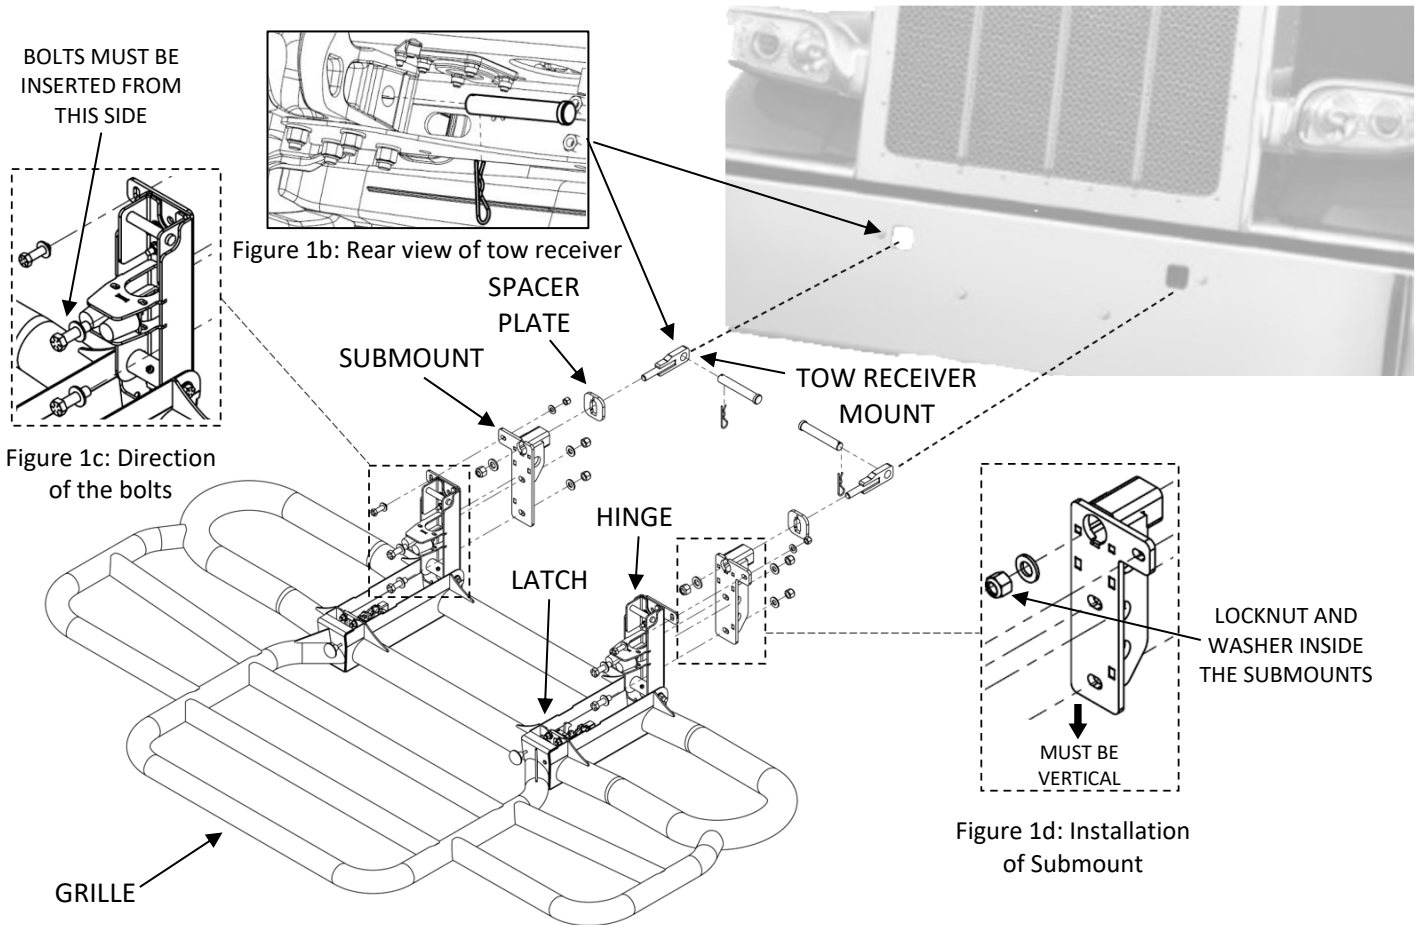

Figure 1a: Grille Guard installation (Your Grille Guard may not be exactly as shown)
4. Open driver side Hinge and lift to driver side Submount. Hand tighten middle hardware (5/8") shown in Figure 1a (**do not fully tighten**). Repeat for passenger side. **Ensure bolts are inserted from front (Hinge side) as shown in Figure 1c.**